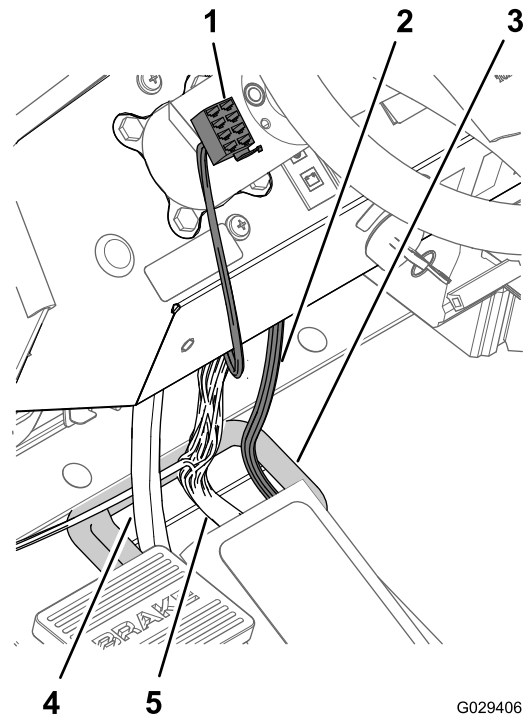

Figure 15
4. Route the 8-socket connector at the end of the 240 cm (94-1/2 inch)—dash-panel branch across the dash panel and to the left of the steering column (Figure 15).